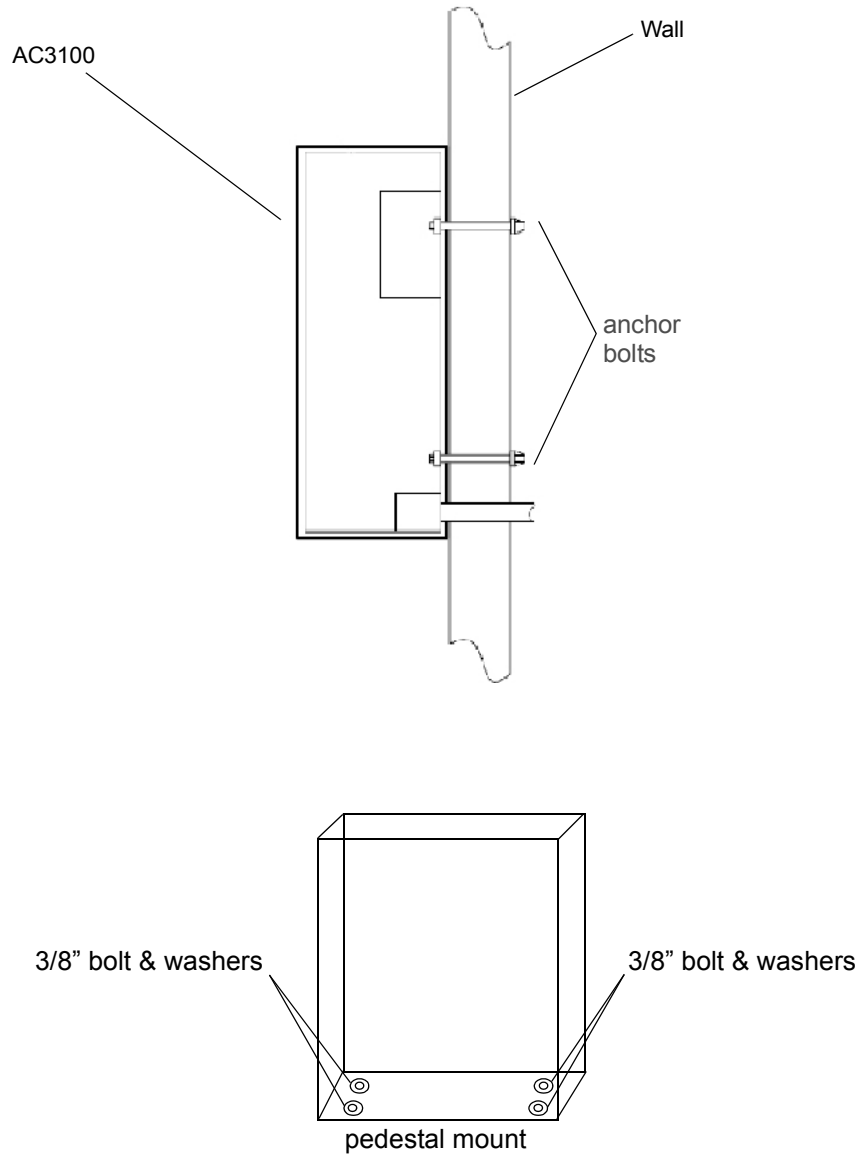

Figure 1-3 Mounting Illustration
- 5 Securely mount the unit, see: Figure 1-3 Mounting Illustration (page 5).